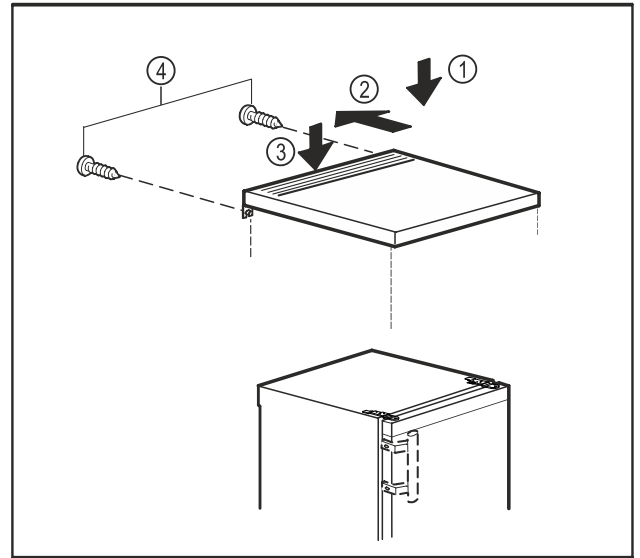

Fig. 11
- ▶ Place the table top on the appliance. Fig. 11 (1)
- ▶ Push the table top backwards. Fig. 11 (2)
- ▶ Press the table top down at the back. Fig. 11 (3)
- ▶ Tighten the screws on the rear end. Fig. 11 (4)